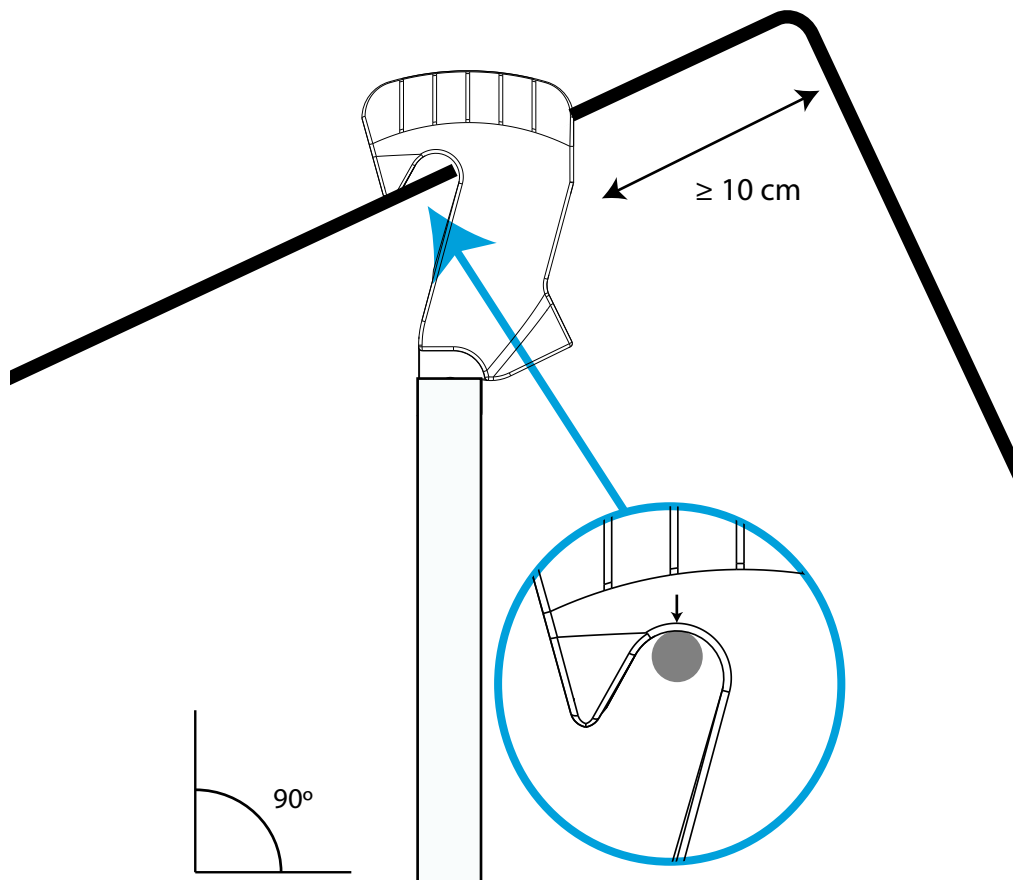

Figure 1: Connection diagram
- ✓ Install the conductor cable by fixing it to the inner wall of the device, as shown in **Figure 1**.
| ⁽¹⁾ + variations in range of use. ⁽²⁾ The position of the clamp relative to the conductor cable can vary the accuracy of the measurement. The ideal position is shown in Figure 1 . | |